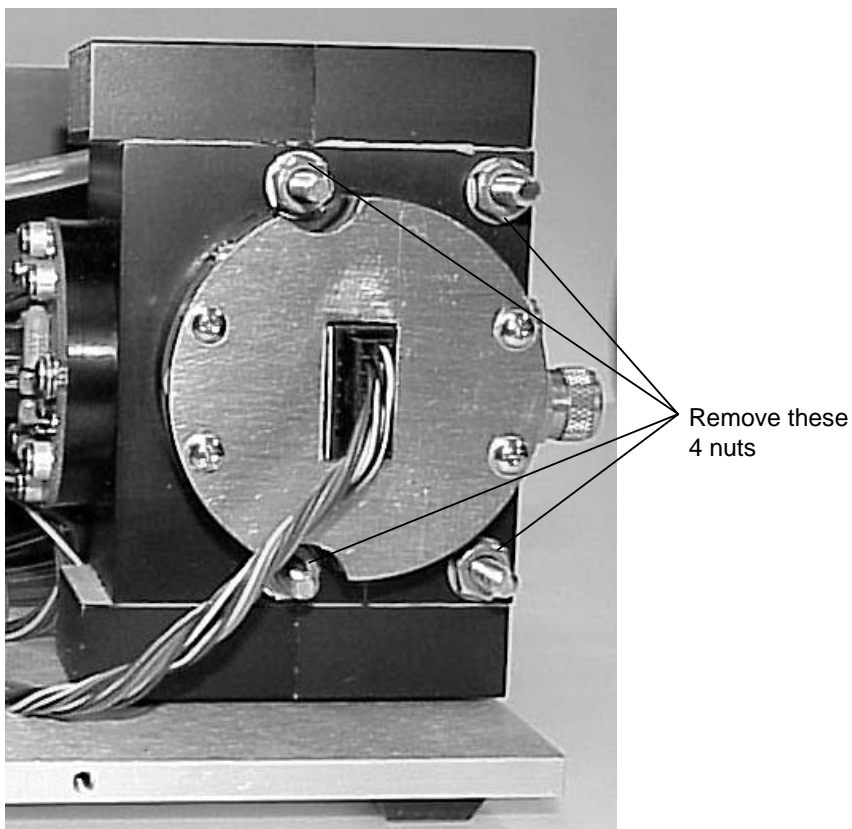

Figure 7-4. Remove the 4 nuts from the guide rails.
2. Remove the 4 nuts on the face of the detector housing that secure the housing to the optical bench guide rails, as shown in Figure 7-4. There is a 3/8" nut driver in the spares kit that is used to remove the nuts.